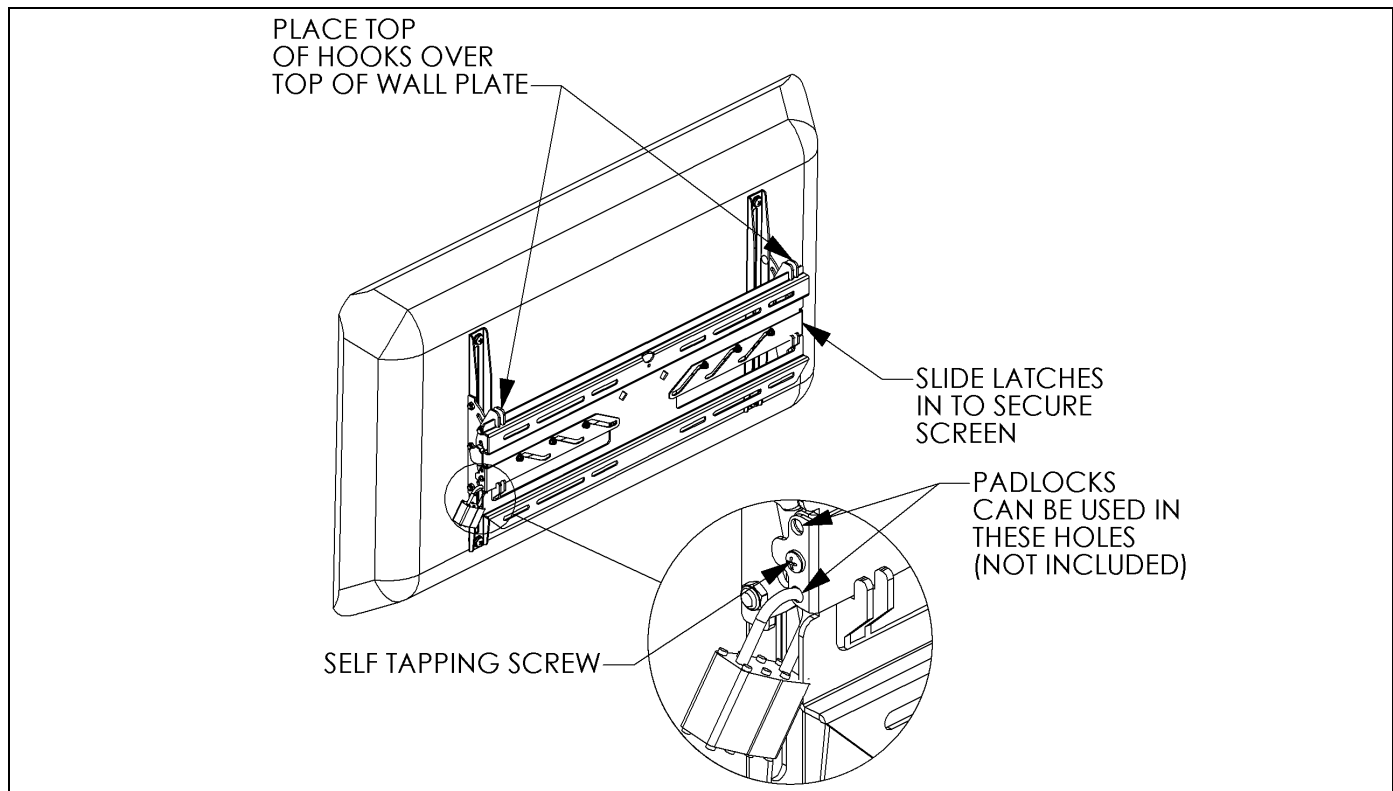

Figure 7
1. Place the display on the wall plate (10) by hooking the hooks of the brackets (20 and 30) in the top of the wall plate. (See Figure 7)
2. Secure the display by sliding the latches, one on each side, inward. (See Figure 7)
3. If desired, install self tapping screws (230) and/or padlocks (not provided) for additional security. (See Figure 7)